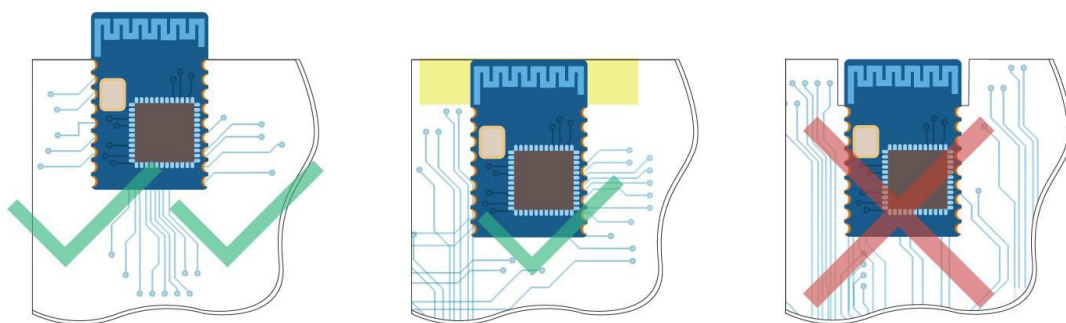
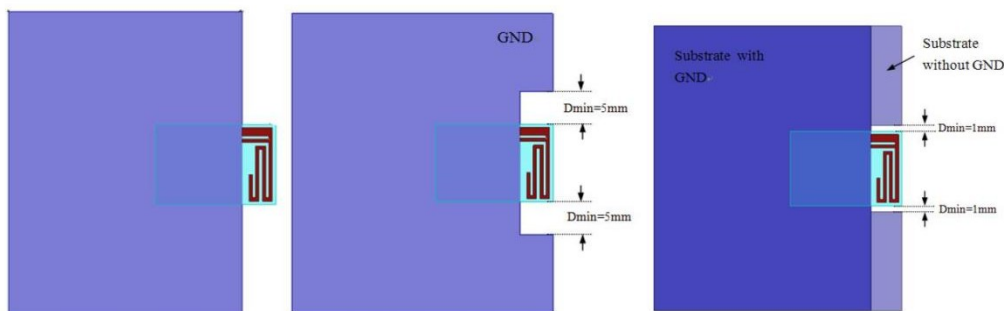

Figure9.1 PCB Layout Suggestion Diagram
Figure9.2 PCB Placement Suggestion Diagram
10. Refer to Figure 9.1 and Figure 9.2 for module antenna layout and routing suggestions。